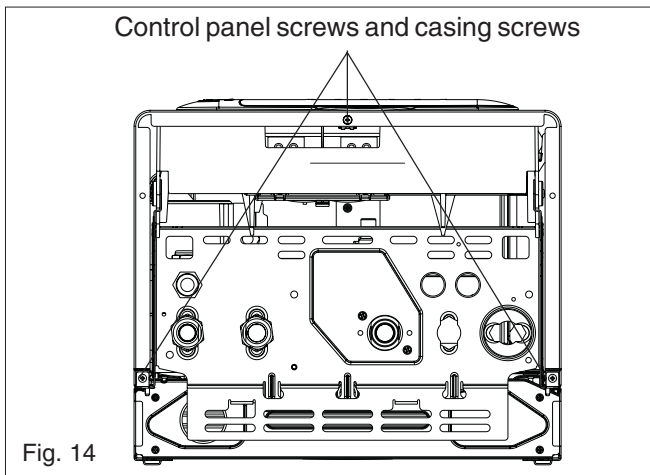

Fig. 14
- locate and remove the 3 screws that secure the outer casing to the appliance (fig 14);